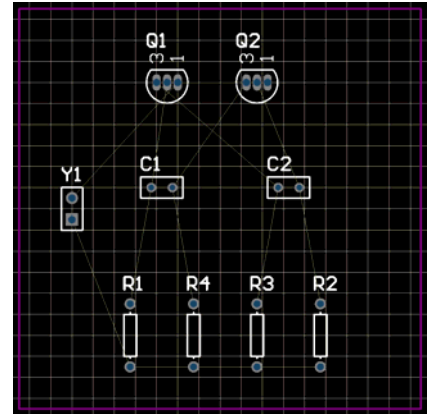

Figure 6. Components placed on the board with new footprints.
2. Double-click on the capacitors and change the **Footprint** field to `RAD-0.1` in the *Component* dialog. You can type in the new footprint name, or press the ... button and select a footprint from the *Browse Libraries* dialog. Click **OK** and the new footprints are displayed on the board. Reposition the designators as required. Your board should now look something like Figure 6.